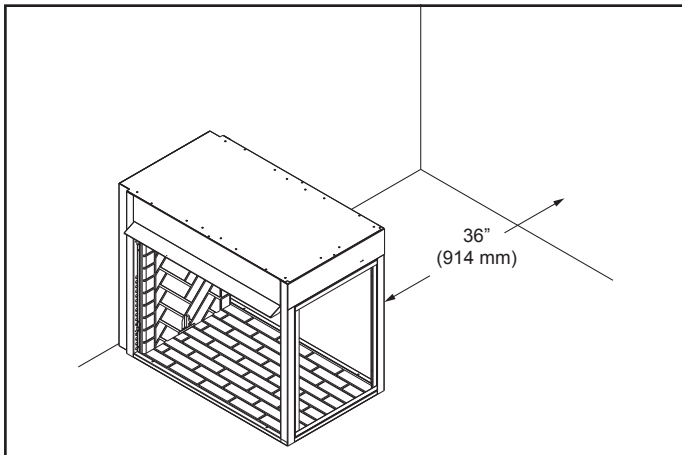

Figure 6.2 Wall Clearance
- 4. Parallel wall clearances:** The clearance from the opening of the firebox to any wall that is parallel to the opening should not be less than 36". See Figure 6.2.